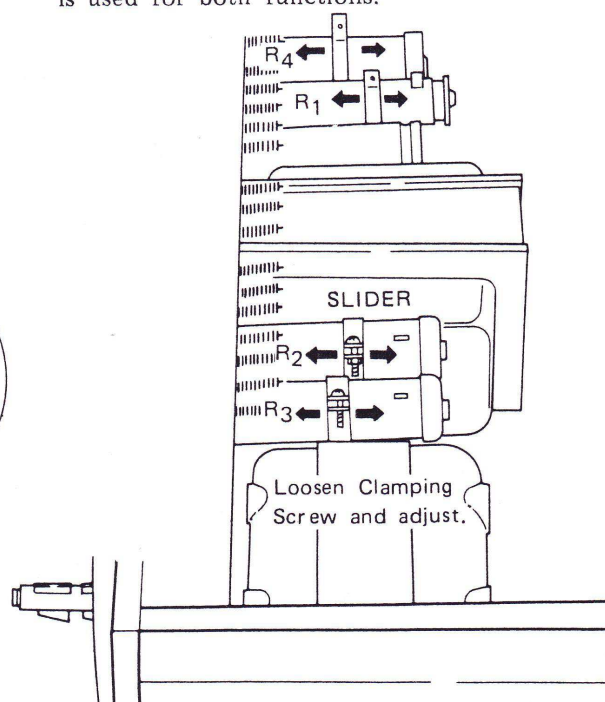

Fig. 21
3. Adjust slider ( $R_2$  500 $\Omega$ ) so that the gauge reads 93 ~ 110g (280 ~ 330g·cm) (Fig. 21).